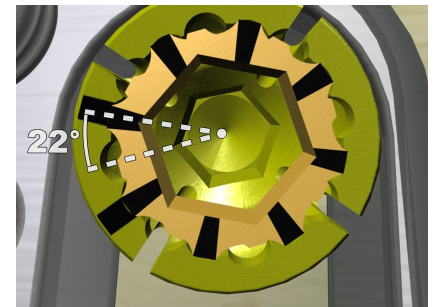

Figure 47
- There are three confirmations to assure that the locking cam is locked. FIRST, the surgeon will feel a tactile click once the locking shaft is rotated 1/16th of a turn (usually a click is heard as well). SECOND, the black dashes on the cam no longer line up with the four cuts in the head of the bone screw (fig. 47). THIRD, use a small probe or dissector, push side to side on the cam ring and if there is